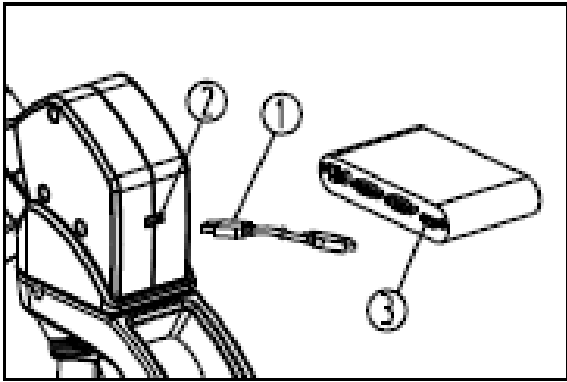

Fig. 20
Insert the connector (1) of HDMI cable into the HDMI Interface (2) on the back of microscope head, view the real time image by connecting the other end to the converter device (3) (See Fig.20 (Only for HDMI digital microscope.))